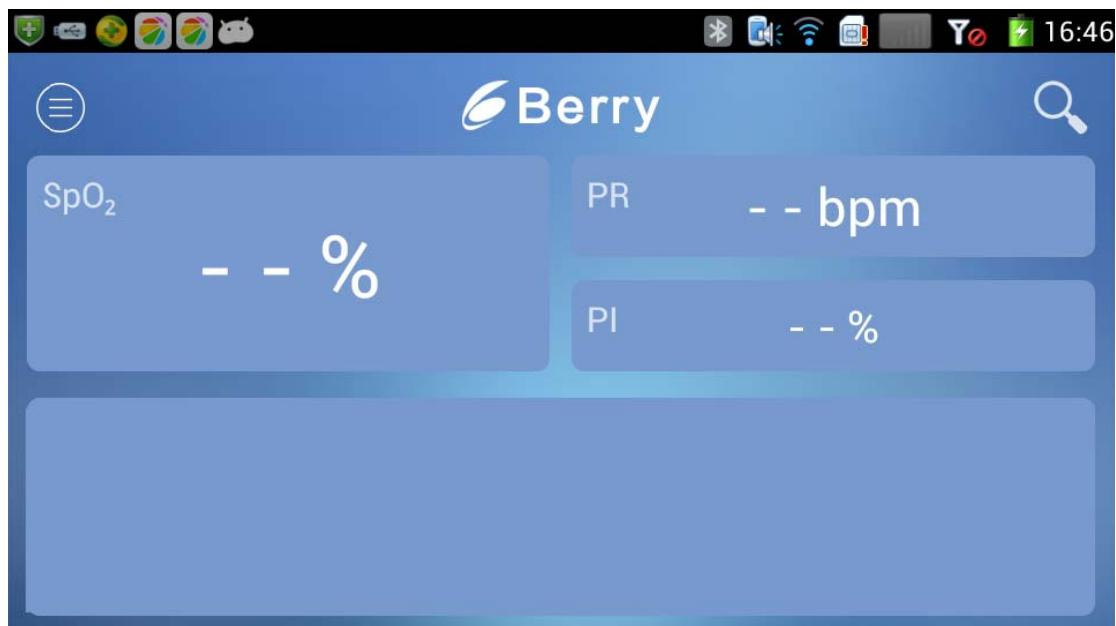

Figure 13
e. Click “berry” and enter the following interface. (as shown in **Figure 13**)